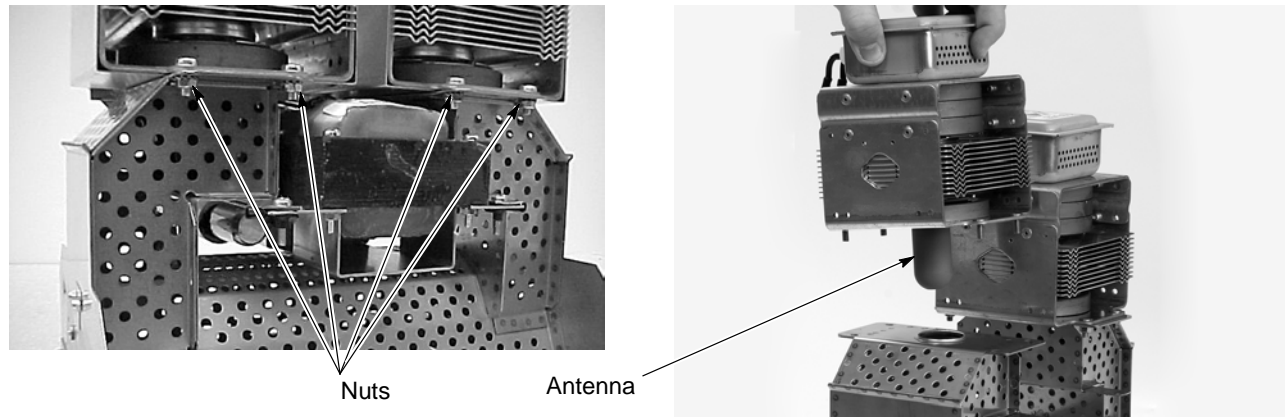

Figure 6-19 Magnetron Removal
4. See Figure 6-19. Remove the four nuts that secure each magnetron to the waveguide. Remove the magnetrons. Save the nuts for reuse.